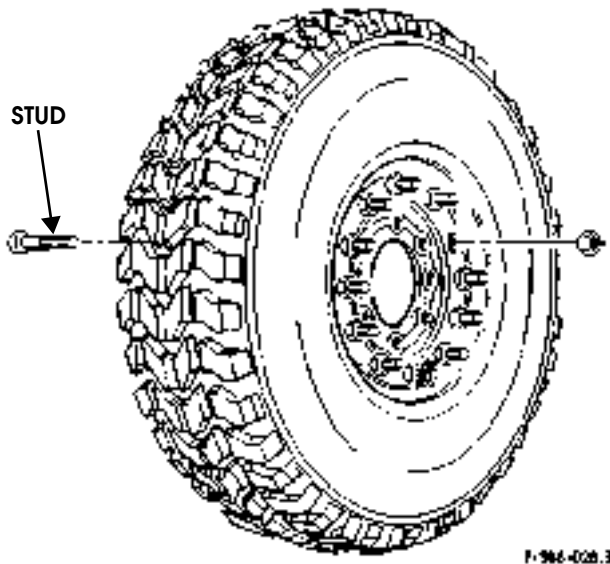

Figure 6-19: Wheel Half Stud
5. Drive studs out of inner rim. Discard studs (Figure 6-19).
2. Inspect inner rim for cracked, broken, rusted, pitted, bent, or loose studs, and studs with damaged, mutilated, or deformed threads. Replace defective parts (Figure 6-19).
1. Align stud with splines in inner rim and drive stud into inner rim until stud shoulder seats against inner rim (Figure 6-19).